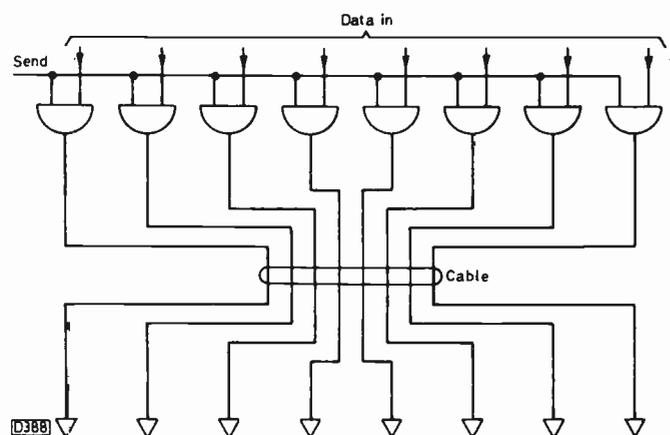

Fig. 23: Parallel data transfer.
**Parallel:** In digital systems (particularly number crunching systems) it's often required to send entire words of data around. This can be done in a parallel or *serial* manner. In parallel transmission, one wire is used for each bit (see Fig. 23). In serial transmission, the data is sent in pulses down a single wire.